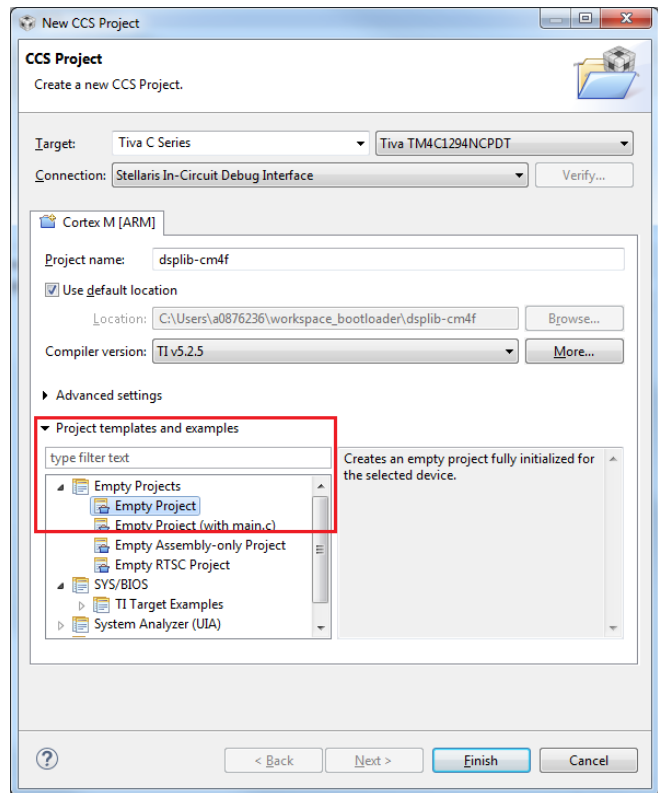

Figure 2. Creating the dsplib Project
6. In `Project templates and examples` (see Figure 2), select `Empty Project`.